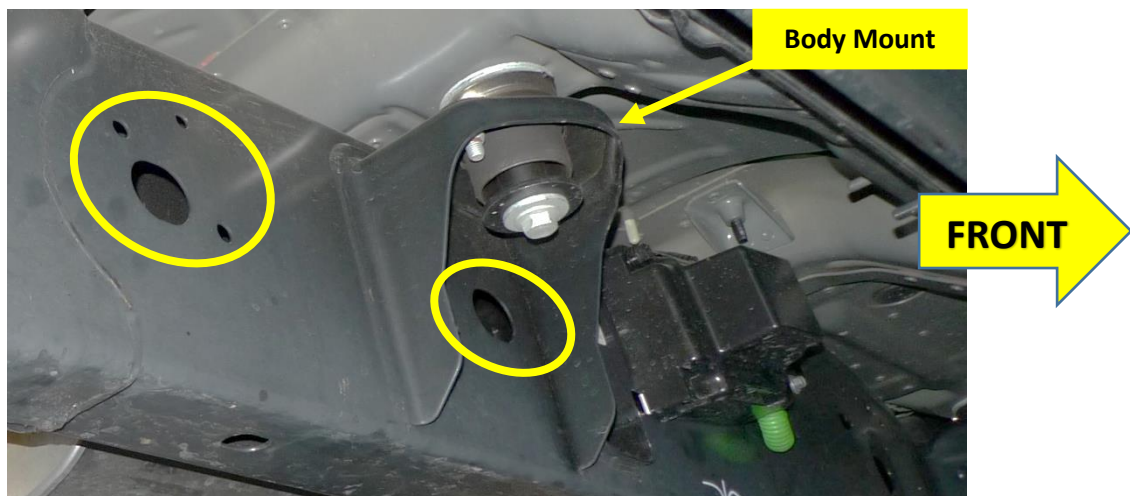
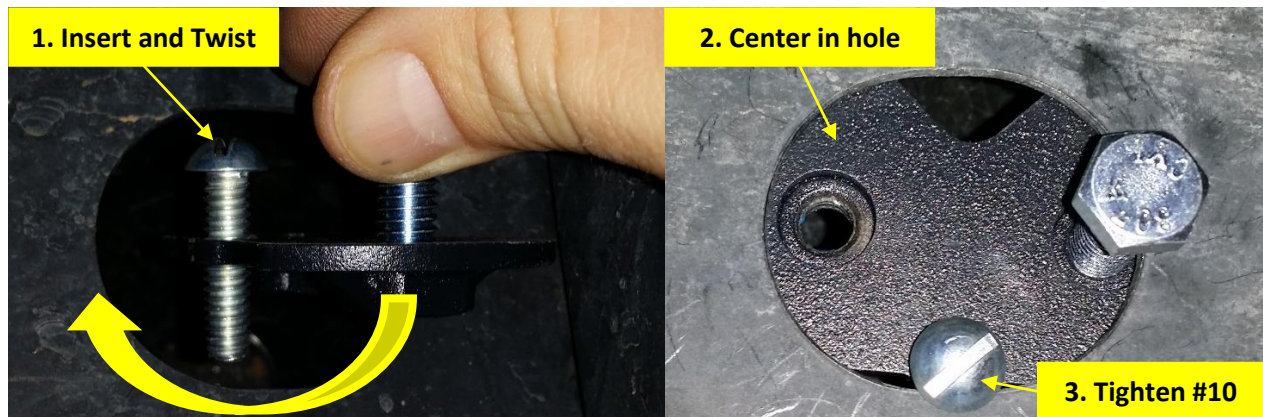

Figure 9 - Frame Hole Locations for RAPTOR-203; below front door
Figure 12 - RAPTOR-203 Insertion Method and Tightened to Frame.
10.1.1. Locate two large oval holes on passenger side frame rail, under front door, as shown in Figure 9 below.
10.1.4. Install Nut Plates into frame holes circled in **Figure 9** above. **Use care not to drop Nut Plate inside frame.** Follow Figure 12 below on insertion method.